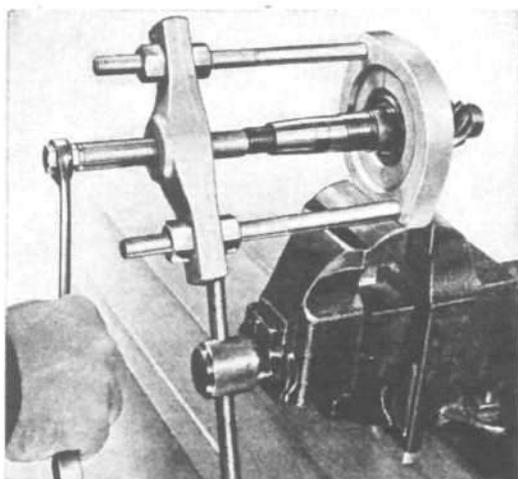
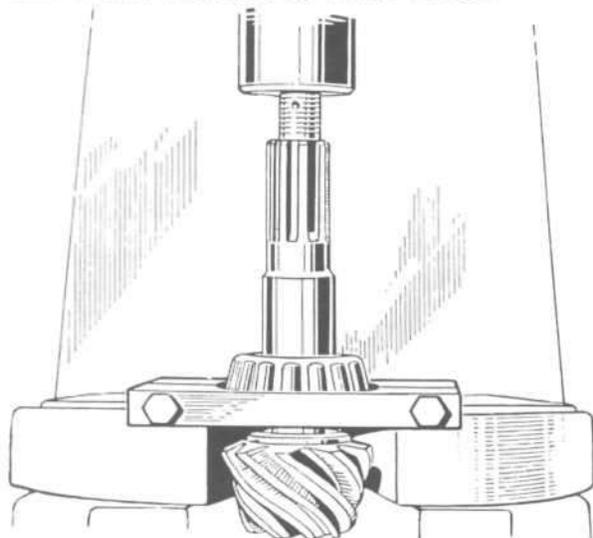

FIG. 251—BEARING PULLER
FIG. 252—REMOVING PINION BEARING
m. Remove the rear pinion bearing from the pinion shaft with bearing puller, Tool W-104, shown in Fig. 251. If this tool is not available, the bearing may be removed with an arbor press as shown in Fig. 252.